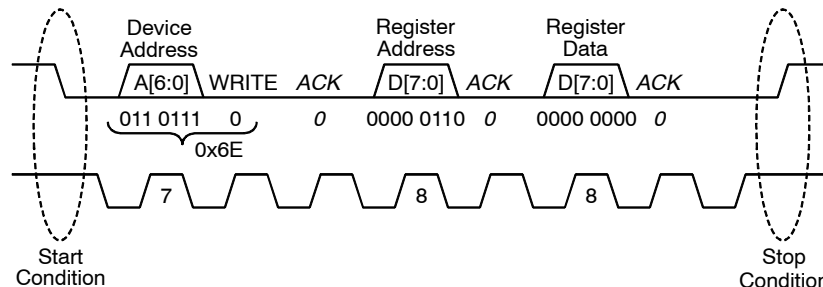

Figure 21. I²C Write Command
Figure 21 shows an I²C write operation. Write transactions begin with the master sending an I²C start sequence followed by the seven bit slave address (NOA3302 = 0x37) and the write(0) command bit. The NOA3302 will acknowledge this byte transfer with an appropriate ACK. Next the master will send the 8 bit register address to be written to. Again the NOA3302 will acknowledge reception with an ACK. Finally, the master will begin sending 8 bit data segment(s) to be written to the NOA3302 register bank. The NOA3302 will send an ACK after each byte and increment the address pointer by one in preparation for the next transfer. Write transactions are terminated with either an I²C STOP or with another I²C START (repeated START).